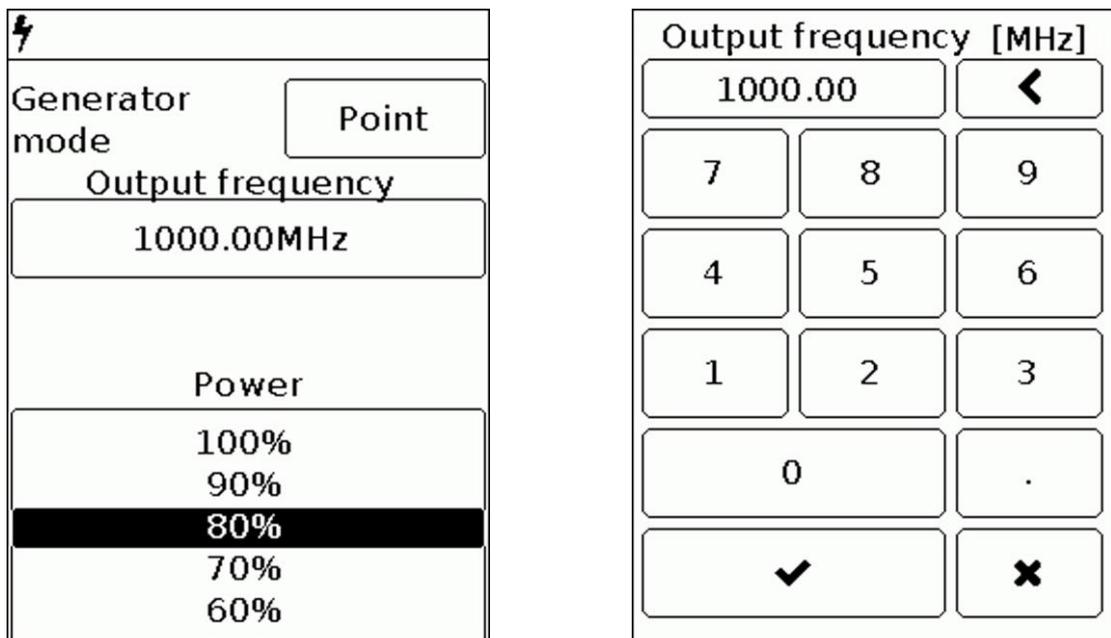

Рисунок 8.4.2 – Setting the frequency and power of the signal in the «Point» mode
8.4.1.1. In mode «Point» generator generates a signal at a predetermined frequency by the user (Figure 8.4.2).